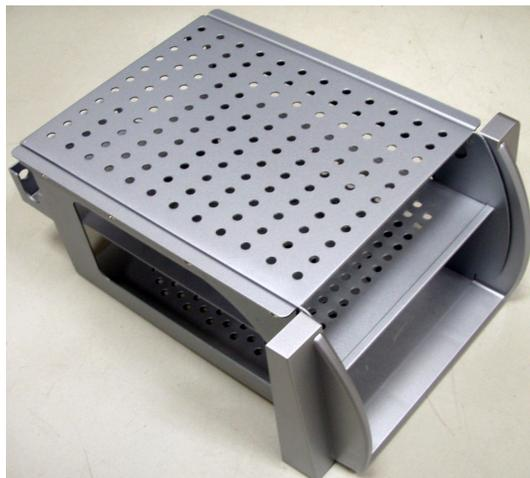

Figure 3-22 DVD/Printer Shelf Disassembly
- 2.) Loose 4 screws of the rear panel and remove it, refer to Figure 3-22 on page 28 .
- 3.) Unscrew 2 screws [M4X8] under the Top cabinet, refer to Figure 3-22 on page 28 .
- 4.) Remove 3 screw caps and unscrew the 3 screws [M5X30] on the top cabinet, refer to Figure 3-22 on page 28 .
- 5.) Lift up the top cabinet and pull out the DVD/printer shelf, refer to Figure 3-22 on page 28 .